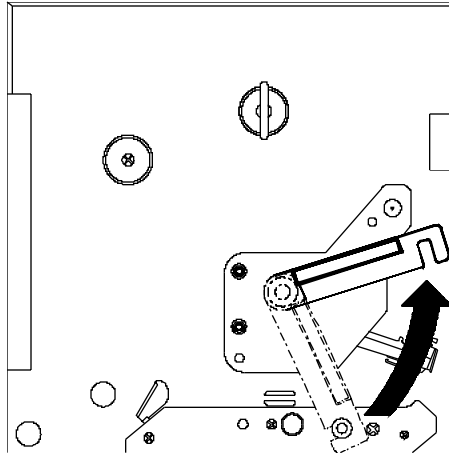

Figure 3-2 Head-Lift Lever
- 1 Move the Head-Lift Lever 'up' to raise the printhead, as shown in Figure 3-2.